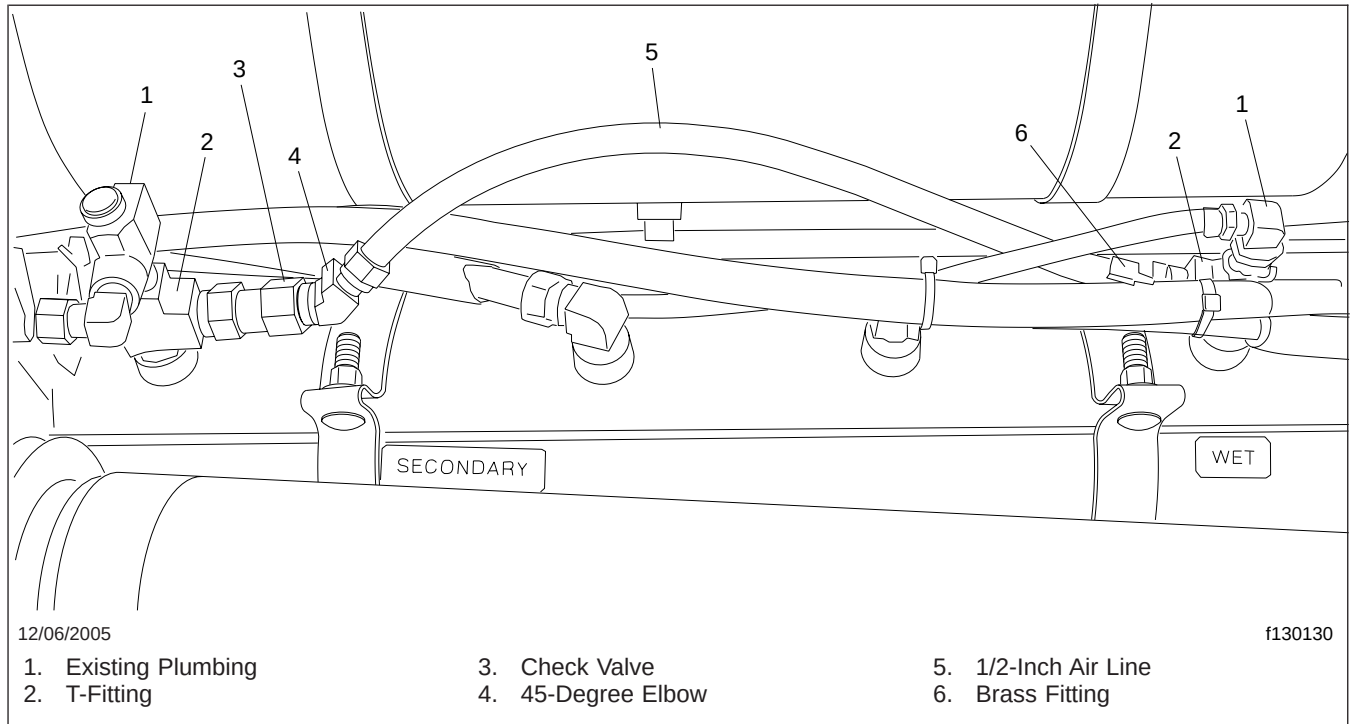

Fig. 5, Check Valve Bypass
3. On the top port on both sides of the reservoir, disconnect the existing plumbing from the tank. Install a T-fitting, and connect the existing plumbing to the top port of the T-fitting. See Fig. 5.